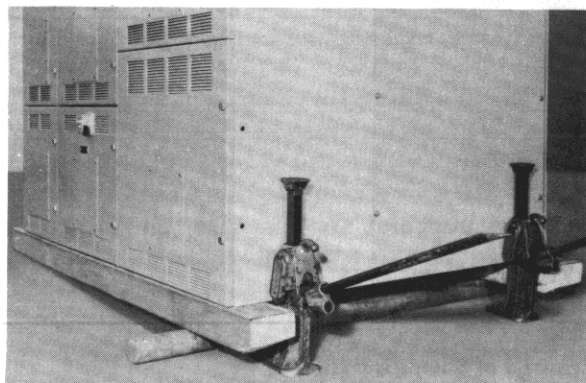

Fig. 1-Method of Raising Switchgear by Use of Jacks. Rollers in place.
1. After switchgear housings have been moved near site, raise the units by placing jacks under the switchgear housing near the front and rear corners as shown in Fig. 1.